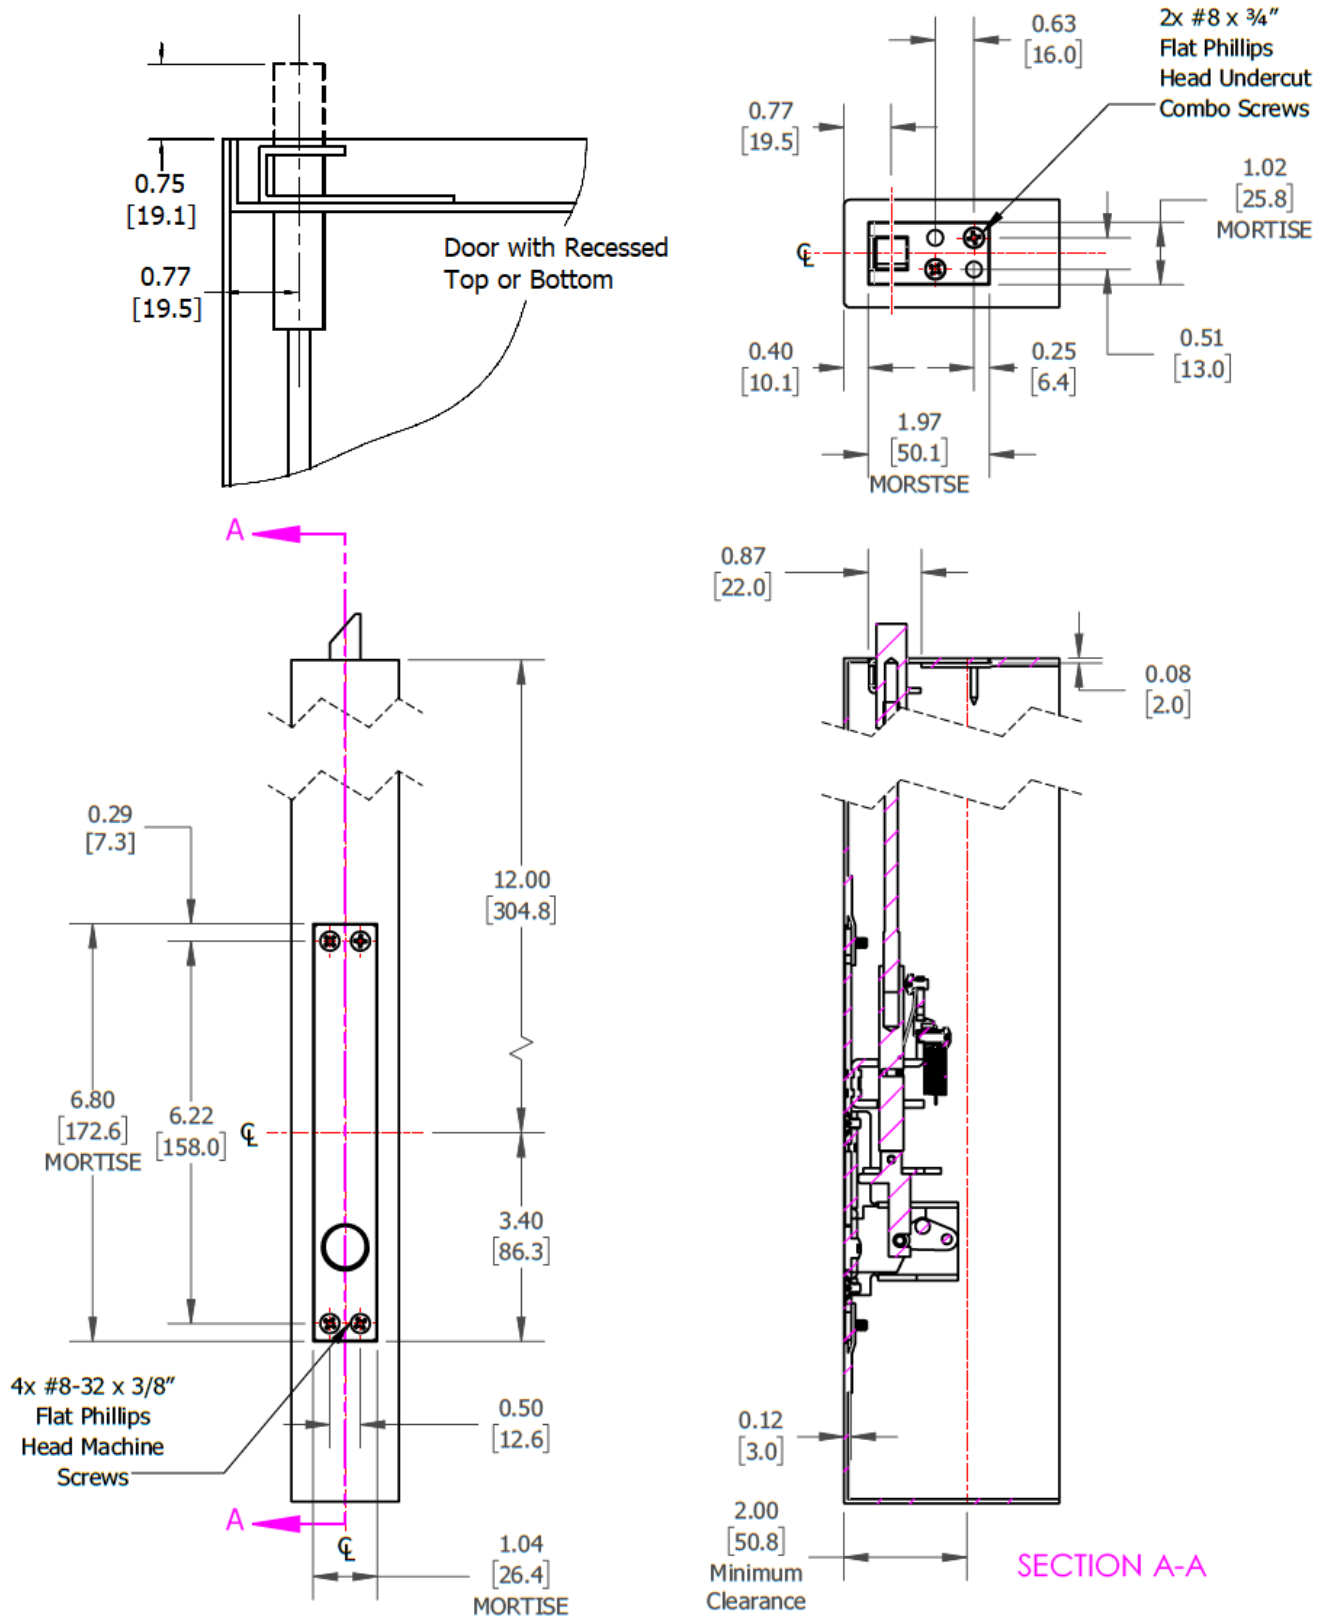

Figure 2: 293S Self-Latching Flush Bolt for Metal Doors
2. Prep the Inactive Door using Figure 1 for 292S and Figure 2 for 293S